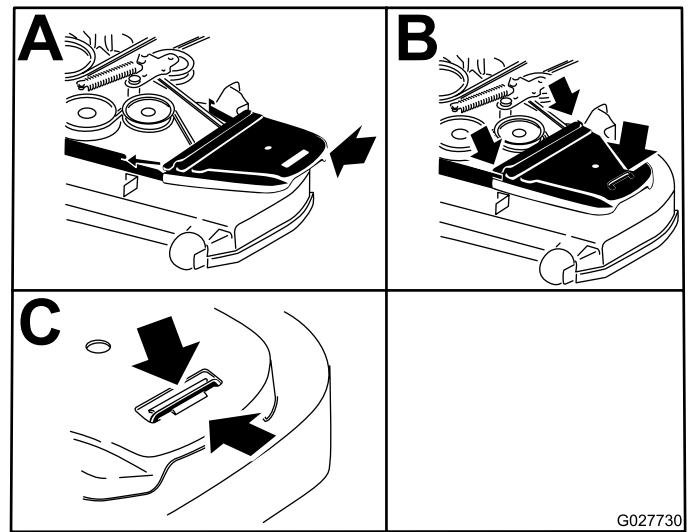

Figure 62
9. Install the belt covers (Figure 62).